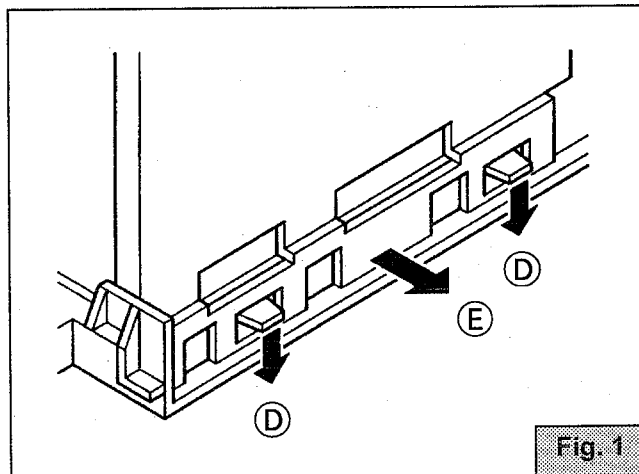

Fig. 1
1. Remove the **4** screws marked (B) as shown in figure.
2. While pushing the claw marked (D), remove the AV TERMINAL board slightly in the direction of arrow (E) as shown in Fig.1.